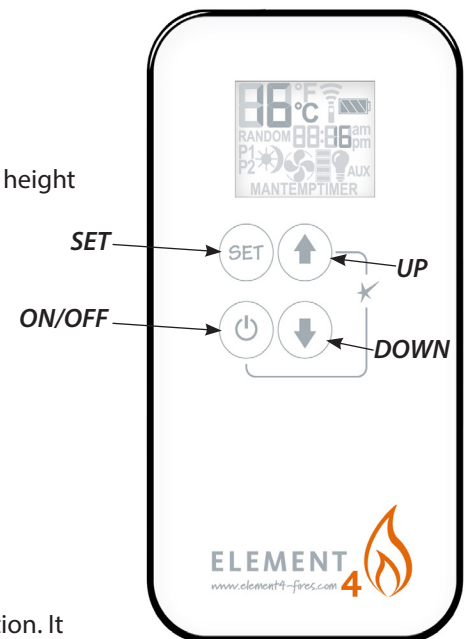

Figure 38 Remote Control
6. Place the three AAA batteries into the remote control and confirm that it will communicate with the receiver by pressing the *ON/OFF*. (See Figure 38) If necessary pair the remote and receiver.